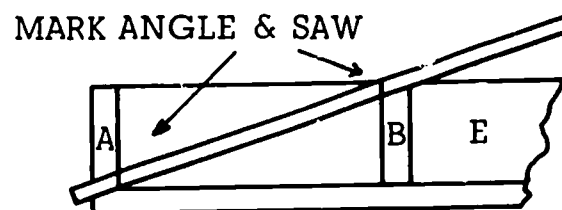

Fig. 86-2
3. Show them how to measure the length of the solid bridging. Demonstrate how to mark the angle of the 1" x 2" bridging. See Fig. 86-2. Show them how to saw the angle with a crosscut saw.